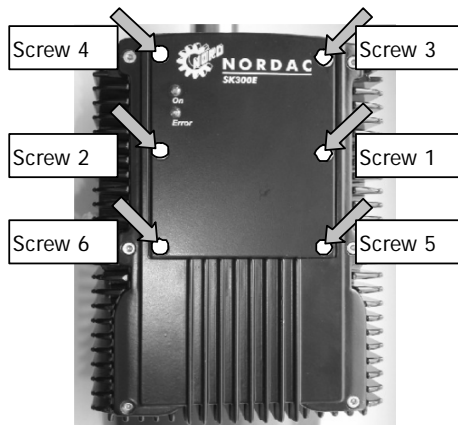

Fig. 1: Technology unit fastening screws
2. Undo the 6 fastening screws on the **blind plate** and remove the blind plate (see Fig. 1 on next page).
5. Now tighten the 6 fastening screws in the specified sequence from 1 to 6 (see Fig. 1 on next page) and with the torque given in the table.